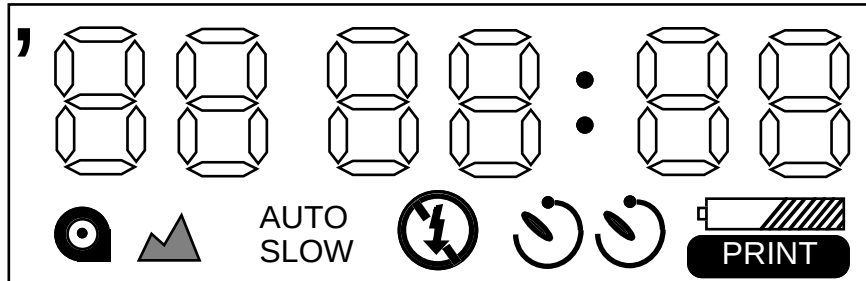
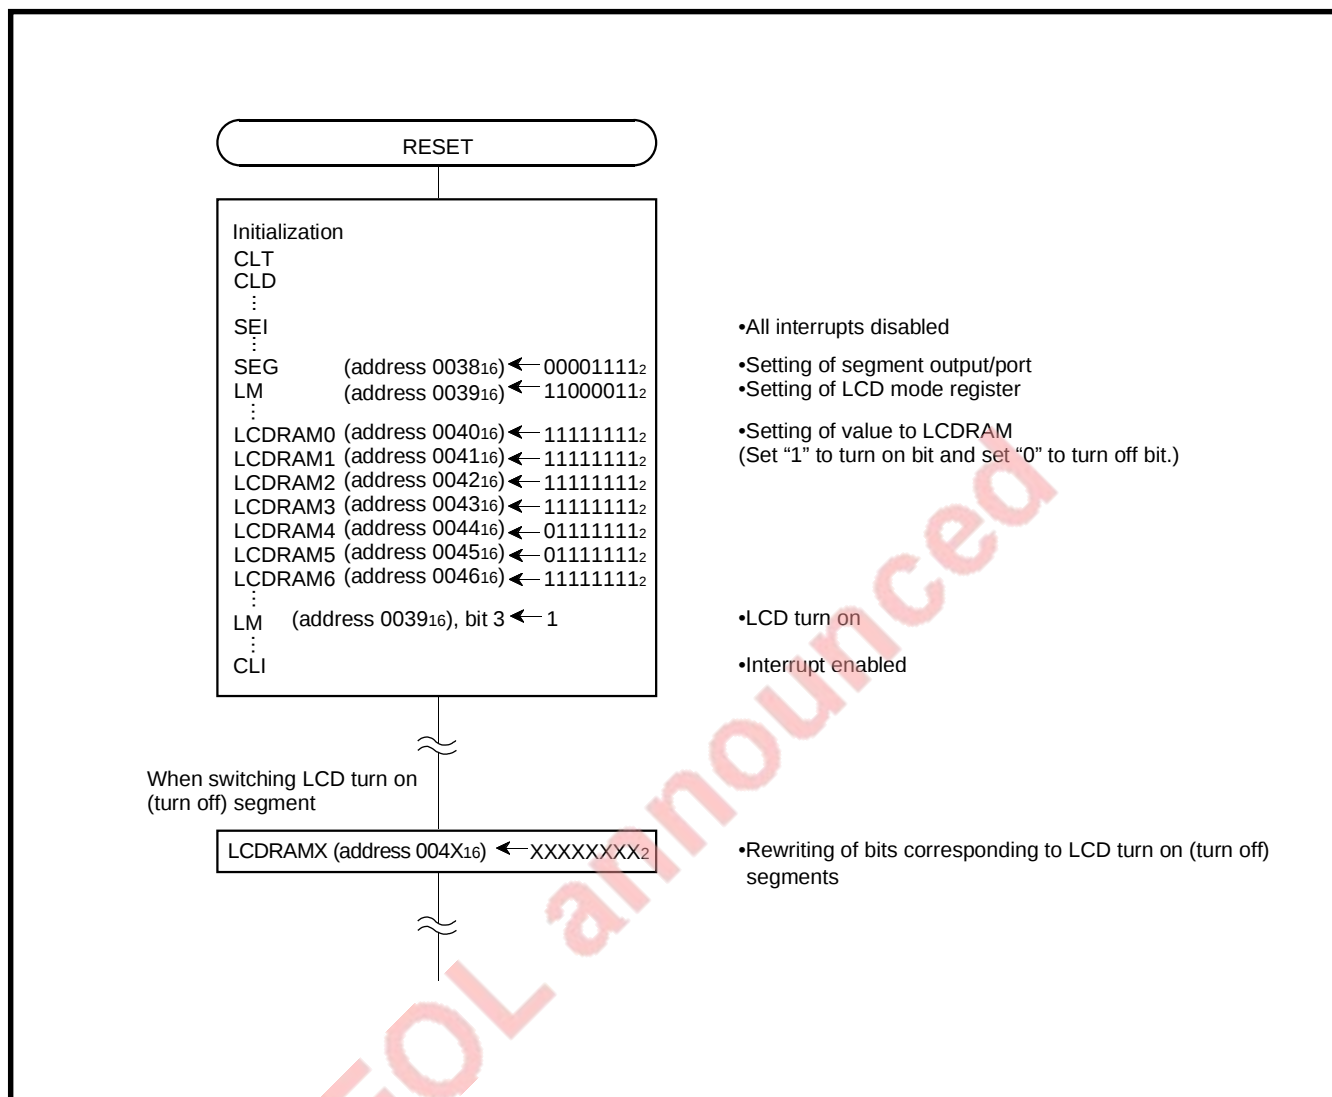

Fig. 2.4.4 LCD panel
Fig. 2.4.9 Control procedure
**Control procedure:** Figure 2.4.9 shows the control procedure of relevant registers to turn on all the LCD display in Figure 2.4.4.